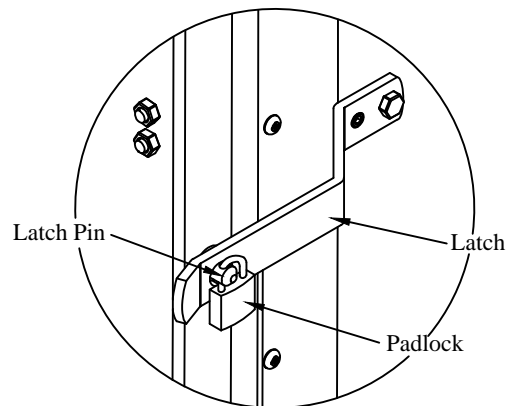

Figure 23: Padlock location.
9. **Lock** the padlock through the hole in the platform or latch pin (Figure 23).